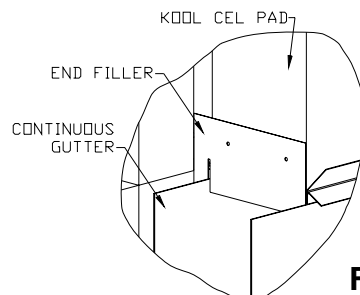

Figure 25
2. Locate the two end fillers as shown in Figure 25. Place the end fillers into the gutter as shown in Figure 25 and 26.